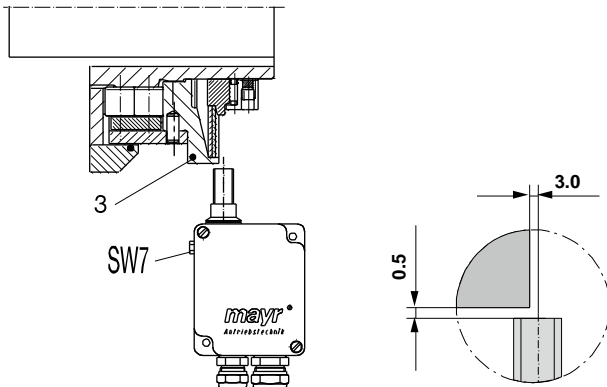
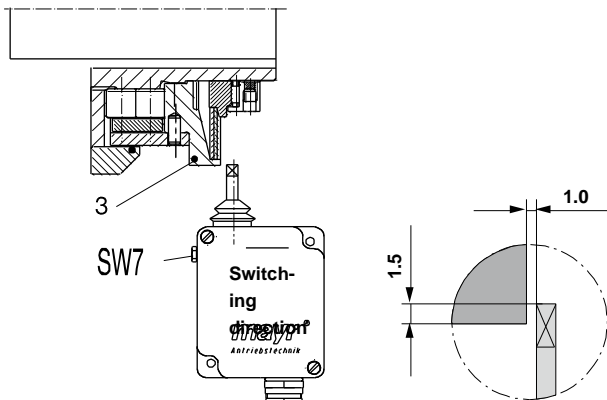

Fig. 4: Contactless limit switch
Fig. 5: Mechanical limit switch
The switching direction arrow on the housing lid of the mechanical limit switch faces in the direction of the adjusting nut (7) or in the control element (3) stroke direction, Fig. 4. Adjust the switch distances for the contactless and mechanical limit switch acc. Fig. 4 or Fig. 5. The distance of the control element (3) to the switching point can be adjusted using a hexagon head screw, wrench opening 7 (fig. 4 and 5).